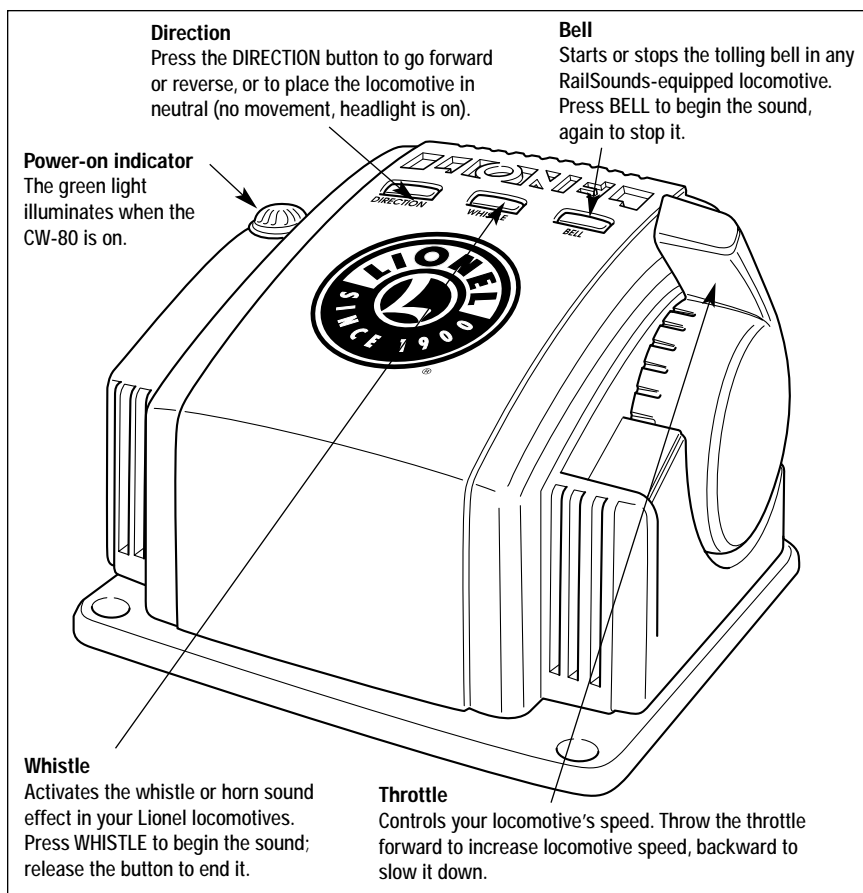

Figure 8. Transformer features
Refer to Figure 8 on page 13 for the location of the Transformer features listed in this section.
- 3. Press and hold down the DIRECTION, WHISTLE, and BELL buttons on the Transformer. Refer to Figure 8 on page 12 for the location of these buttons.**